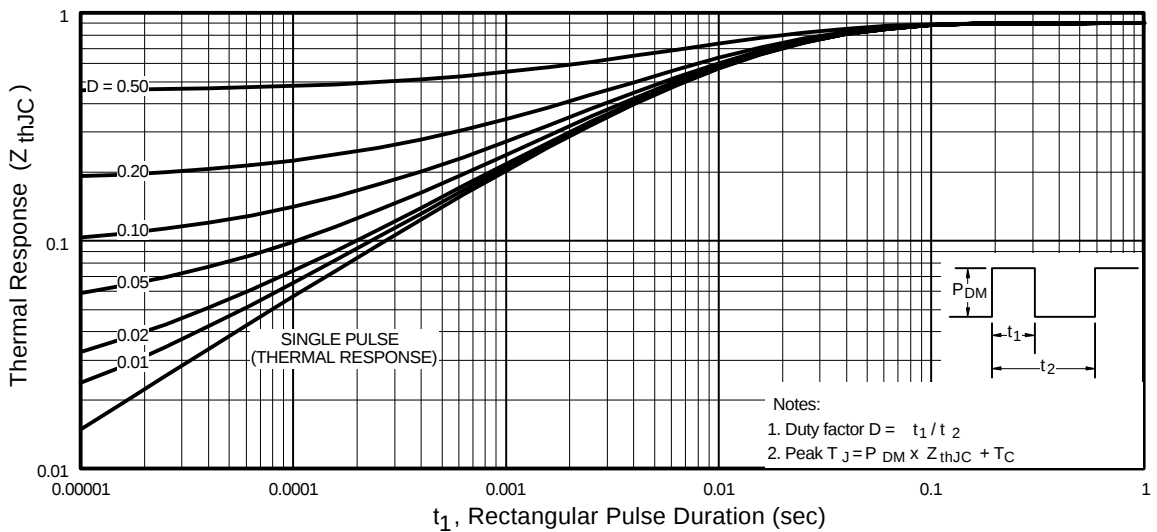

Fig 11. Maximum Effective Transient Thermal Impedance, Junction-to-Case
① Repetitive rating; pulse width limited by max. junction temperature. (See fig. 11)
② Starting $T_J = 25^\circ\text{C}$, $L = 260\mu H$